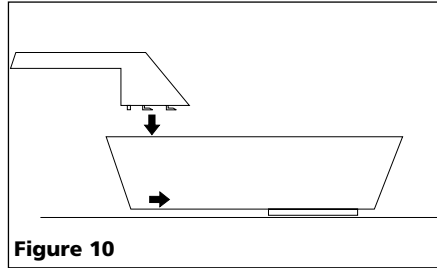

Figure 10
- To attach the handle, place shield on a flat surface and press handle into place (See Figure 10).